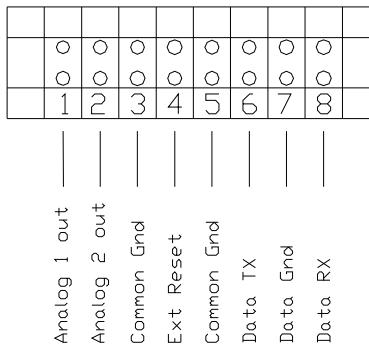

Figure 9.
**TB3 User Interface:** Terminal board TB3 The IR-SNIF-1,2,3 is designed to provide two standard 0-10 volt analog outputs **or** two optional 4-20 mA analog outputs, and external reset input and optional rs-485 interface for use with ACC 070 SenTech COMM LINK PC to Refrigerant Monitor Interface, or ACC 065 SenTech Remote Control Panel Interface. Refer to figure 9 for a diagram of TB3 terminal board.